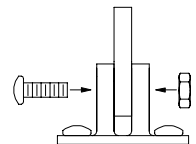

Figure 10 - Rear Mount
- Depending on your configuration, attach a small, medium, or large suspension arm to the rear mount as shown in Figure 10 using a #8 machine screw and nut.